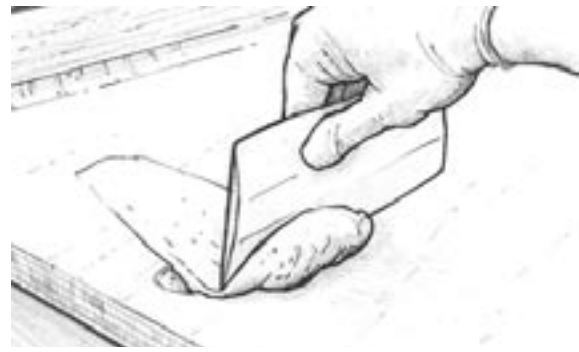

Figure 3-13 Trowel the thickened epoxy/low-density filler into voids and depressions with a plastic squeegee.
4. Trowel on the thickened epoxy mix with a plastic squeegee, working it into all voids and depressions. Smooth the epoxy/filler blend to the desired shape, leaving the mix slightly higher than the surrounding area (**Figure 3-13**). Remove any excess thickened epoxy before it cures. If filling voids that are over 12mm deep, apply the fairing mix in several applications or use 206 Slow Hardener.